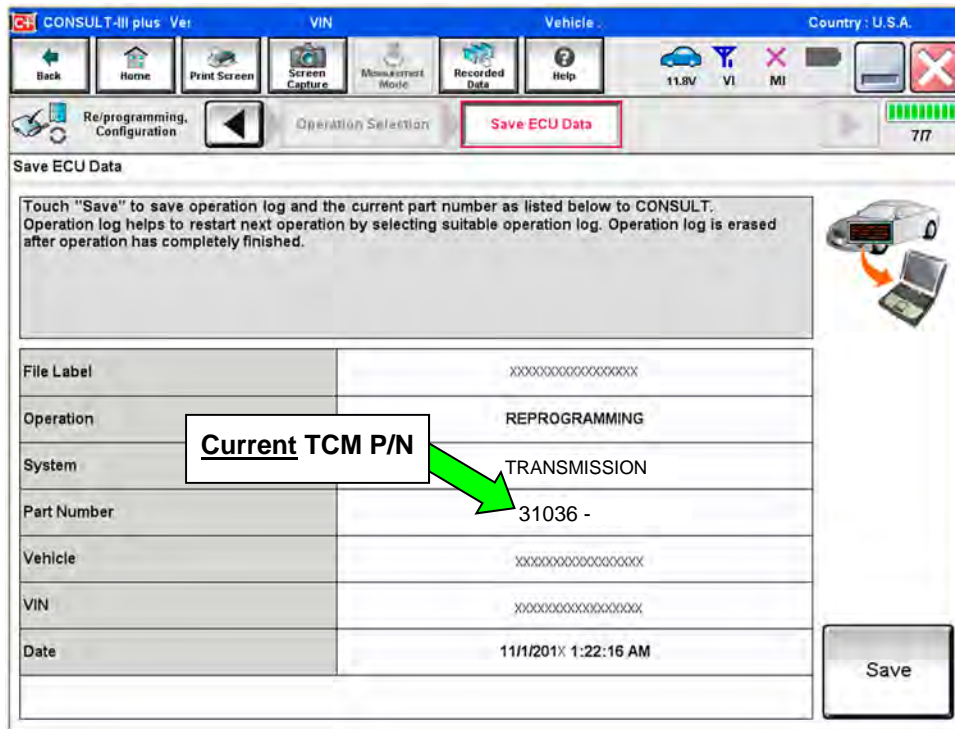

Figure 33
29. Follow the on-screen instructions and navigate C-III plus to the screen shown in Figure 33 on the next page.
30. When you get to the screen shown in Figure 33, confirm reprogramming applies as follows: